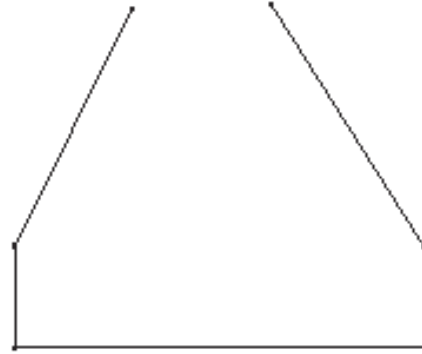

Figure 1-28 Left and right inclined lines
9. Use the left mouse button to start an inclined line from the endpoint of the last vertical line. Size the line and specify the end point of the line. The inclined line is shown in Figure 1-28. Press the middle mouse button to end line creation. The **2 Points** option is still active.
10. Use the left mouse button to start an inclined line from the start point of the first vertical line. Size the line approximately and specify the endpoint of the line. Press the middle mouse button to end line creation. The two inclined lines are shown in Figure 1-28.